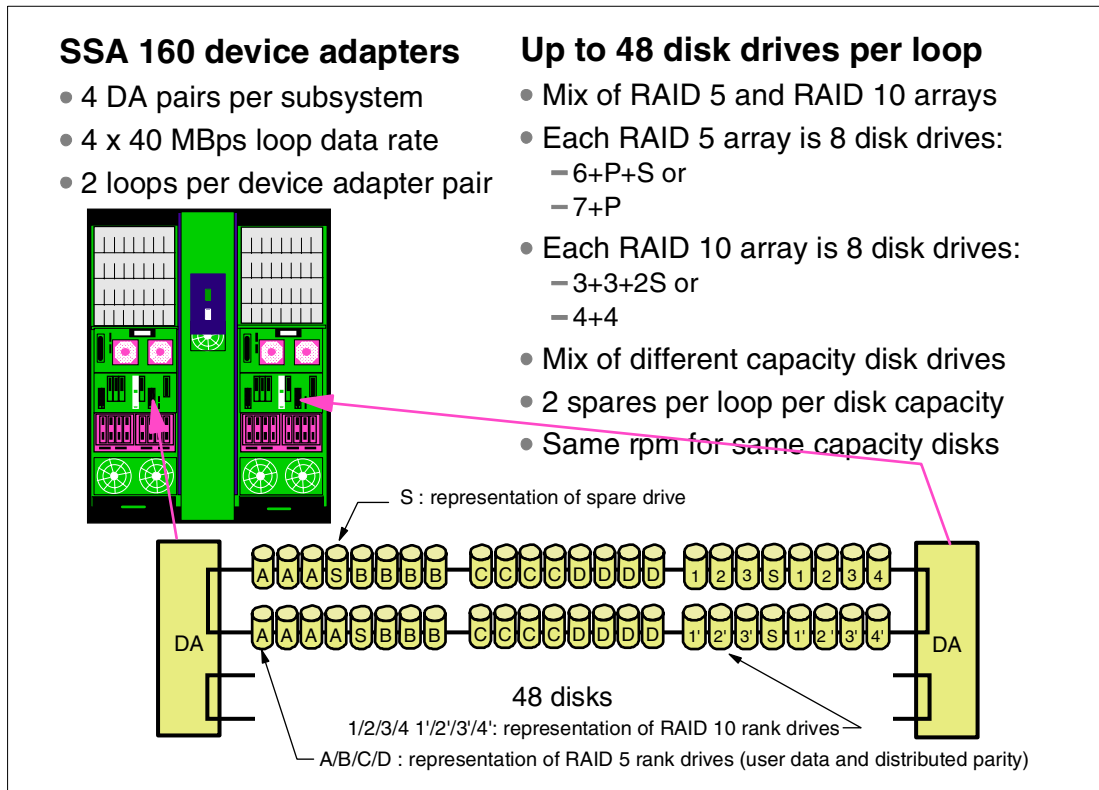

Figure 2-8 ESS device adapters
Device adapters (DA) provide the connection between the clusters and the disk drives (refer to Figure 2-8). The IBM TotalStorage Enterprise Storage Server Model 800 implements faster SSA (Serial Storage Architecture) device adapters than its predecessor models.
One adapter from each pair of adapters is installed in each cluster as shown in Figure 2-8. The SSA loops are between adapter pairs, which means that all the disks can be accessed by both clusters. During the configuration process, each RAID array is configured by the IBM TotalStorage ESS Specialist to be normally accessed by only one of the clusters. Should a cluster failure occur, the remaining cluster can take over all the disk drives on the loop.
Figure 2-8 on page 31 shows a logical representation of a single loop with 48 disk drives (RAID ranks are actually split across two eight-packs for optimum performance). In the figure you can see there are six RAID arrays: four RAID 5 designated A to D, and two RAID 10 (one 3+3+2 spare and one 4+4).
Figure 2-8 on page 31 shows arrays A and B both have spare disks that are used across the loop in case of a disk failure. When the failed disk is replaced, it becomes the new spare. Over time the disks (data and spare) in the RAID ranks on the loop become mixed. So it is not possible to remove an eight-pack without affecting the rest of the data in the loop.
If a loop has only one disk capacity size installed, then both RAID formats will share the spares. In Figure 2-8 on page 31, there are two RAID 10 arrays consisting of a pair of eight-packs of a different drive size from the RAID 5 eight-packs. Therefore, two additional hot spare DDMs will be reserved by the 3+3+2S arrays.